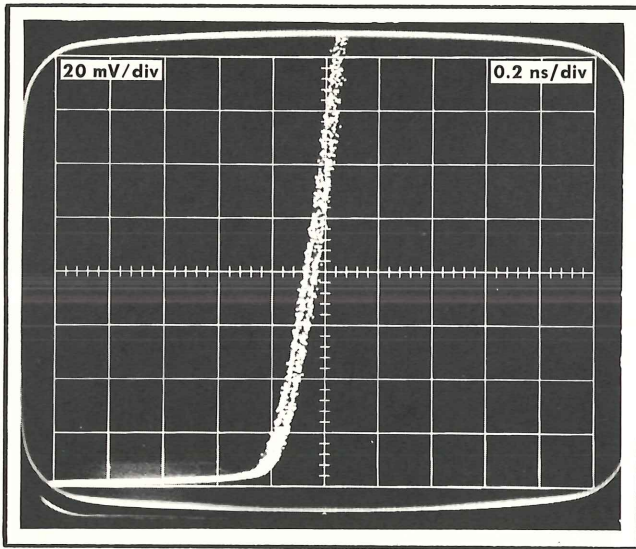

Fig. 5-12. Co-channel time coincidence check.
f. Adjust the Type 3T77A Trigger Sensitivity for a triggered display and position the traces so that the portion preceding the pulse rise intersects the lower left-hand corner of the graticule. See Fig. 5-12.